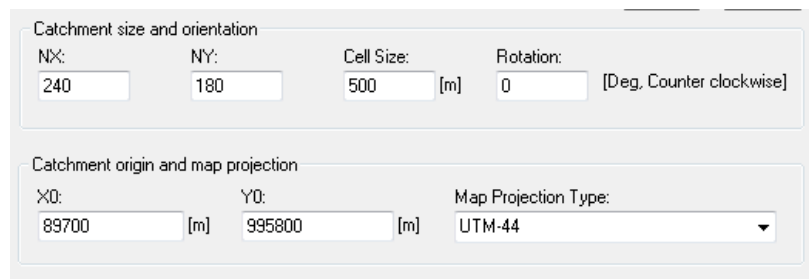

Figure 115: Defining the grid resolution
- Define the mesh as shown in Figure 115.